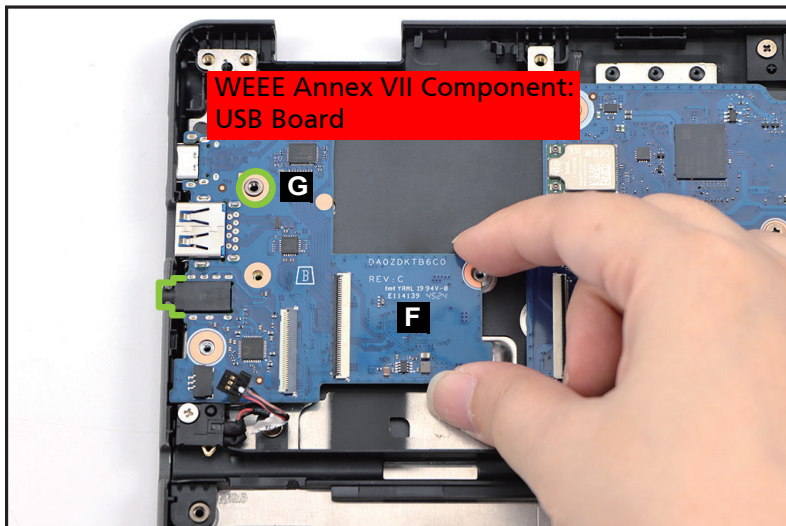

Figure 1-32. USB Board Removal
6. Release the USB board (F) from the I/O port slots and guide pin (G) on the top assembly (Figure 1-32). Then remove the USB board.